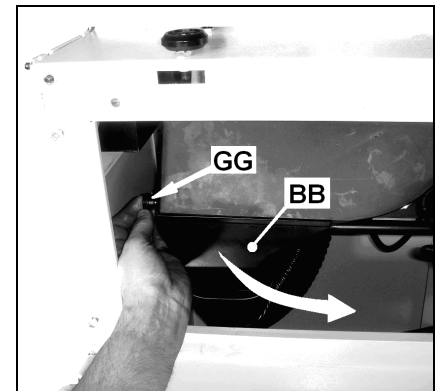

Fig 23
Remove the lock knob (GG, Fig 23) and lower the dust port (BB).